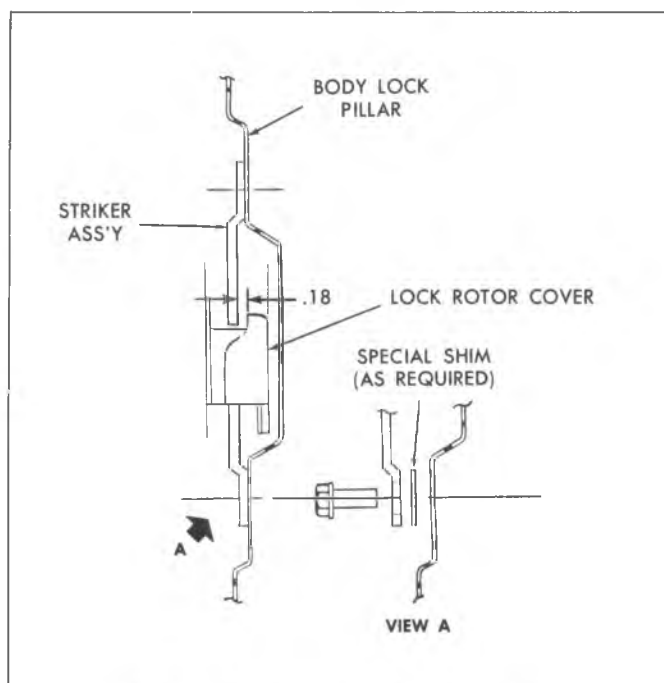

Fig. 43—Striker Assembly on Body Lock Pillar
1. Position striker assembly on body lock pillar so that the rotor cover outer face on the door swings into striker assembly with .10" clearance to the lock rotor cover. Use special burred shims as required (fig. 43).